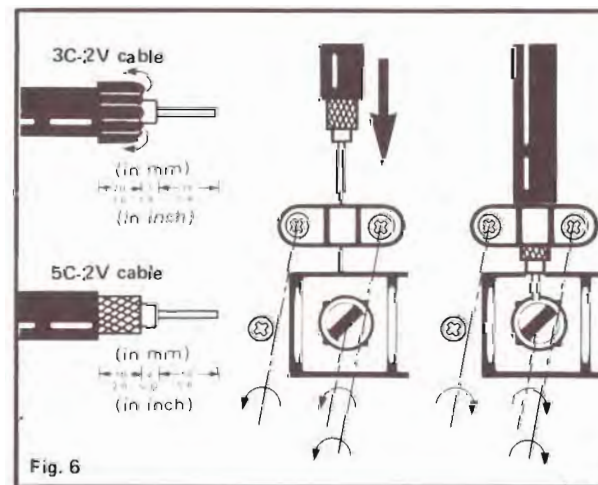

Fig. 6
- 75-Ohm antenna with coaxial lead (Fig. 6)